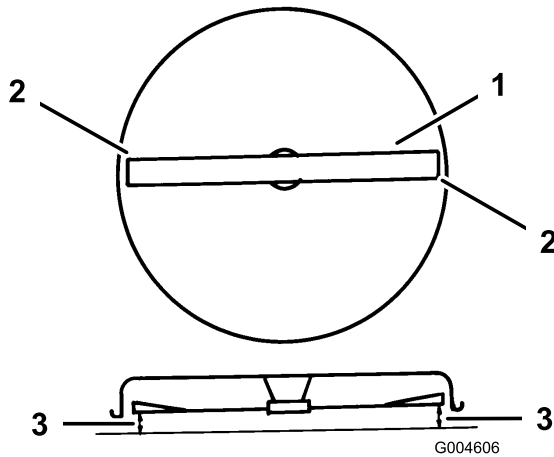

Figure 44
9. Carefully rotate the blade side to side (Figure 44).
10. Measure between the outside cutting edges and the flat surface (Figure 44). If both measurements are not within 3/16 inch (5 mm), adjust it; refer to steps 11 through 14.